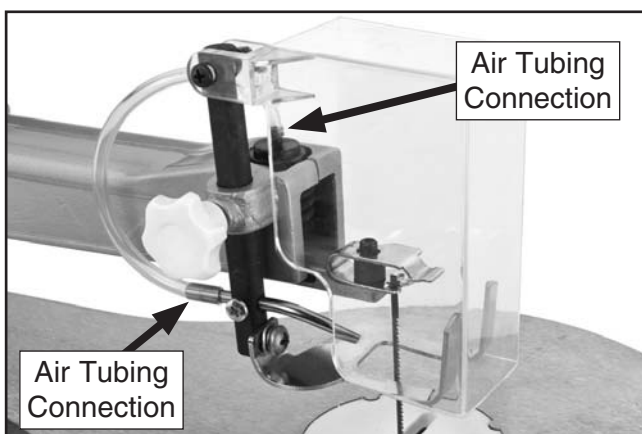

Figure 10. Air tubing connections.
4. Connect the air tubing to the backside of the air nozzle, as shown in **Figure 10**.